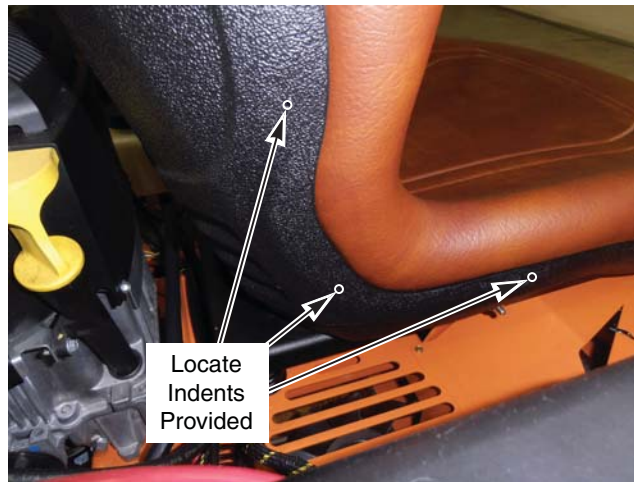

Figure 2. Locate Indents
3. In order to install the armrest assemblies onto the seat, six speed nuts (supplied with kit) will need to be installed. Indents are provided on the seat shell to indicate the proper locations. See Figure 2, Page 2.